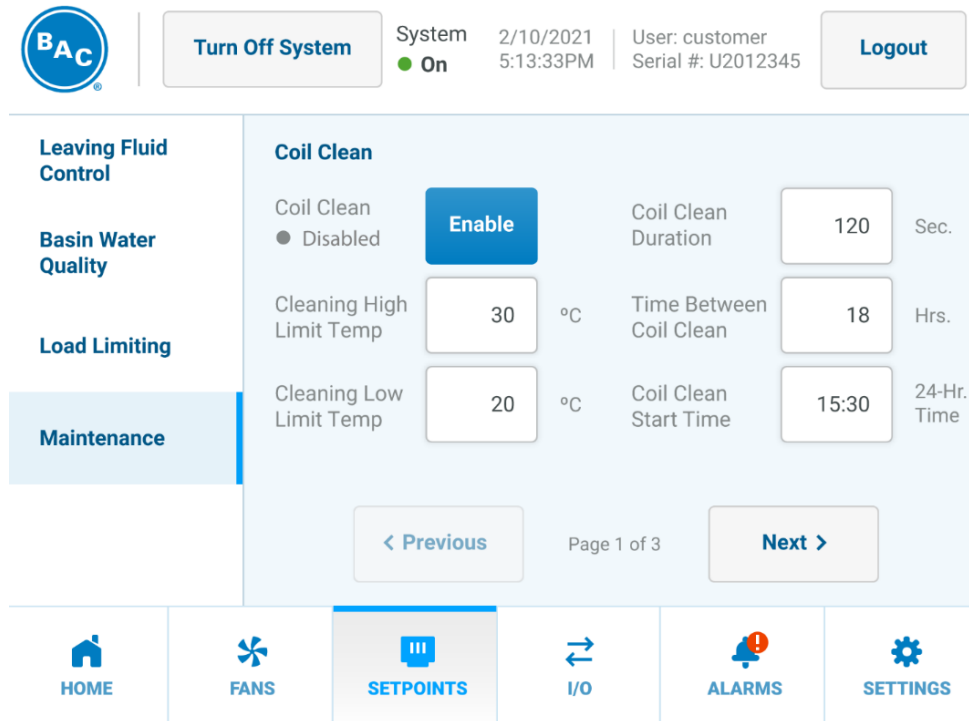

Figure 64. Setpoints Menu, Maintenance Page 1 of 3
- Coil Clean maintenance mode shown in **Figure 64** with parameters listed in **Table 20**.